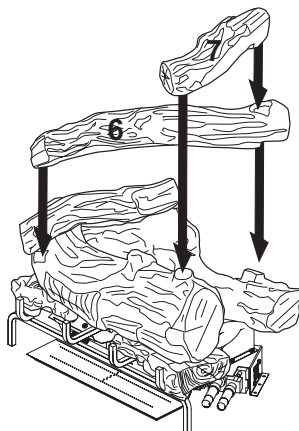

Figure 28 - Installing Logs #6 and #7
6. Place top middle log (#6) onto rear log (#1) and front log (#3). Match square peg on bottom of log #6 with square hole on log #4 and round hole on log #6 with peg on log #1 (see Figure 28).
7. Place top right log (#7) onto top middle log #6 and front log (#3) matching peg on bottom of top right log #7 with hole on top middle log #6 and hole in top right log #7 with peg on front log (#3) (see Figure 28).